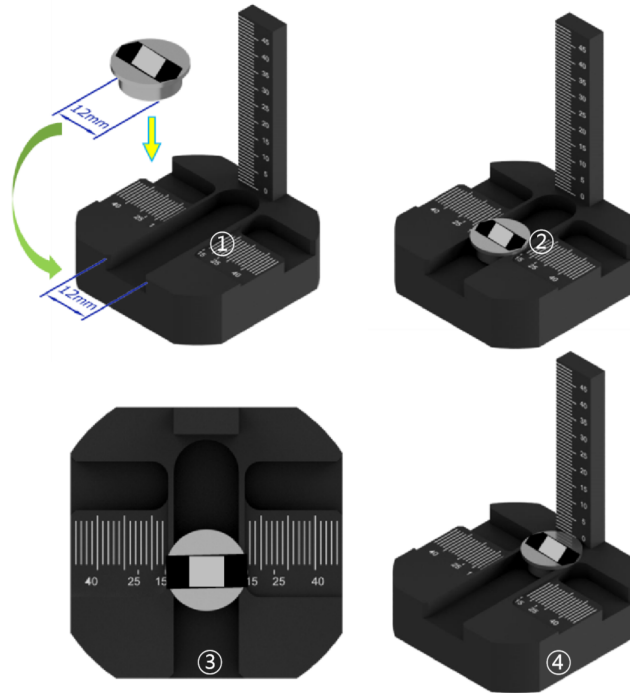

Figure 3. The mounting jig used to measure the width and height of the sample.
- Using the jig (Figure 3), measure the size of the specimen including mount. Use the gradations of the horizontal grid on the jig to measure the diameter of the specimen and the vertical grid for the specimen height. If you are using older 3.2mm style stubs with a narrow attachment post, there is an adapter available to fit into the stage. Make sure to measure dimensions with the adapter attached.